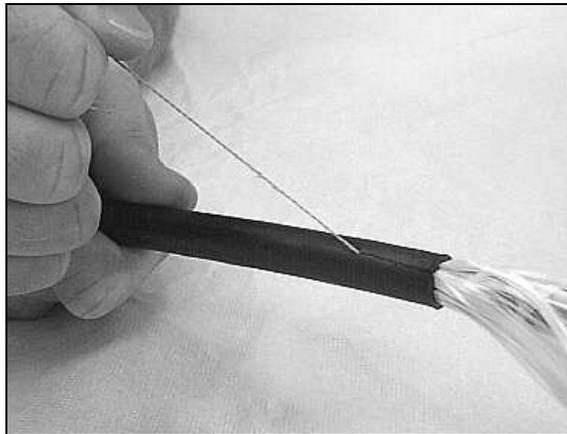

Figure 24 - Pull the ripcord to the marked length.
6.14 Locate the ripcords and pull each one to the marked edge of the sheath opening (Figure 24). A small starter slit can be cut in the cable jacket to start the ripcord. If desired, wrap the ripcord around the jaws of needle nose pliers to grip it. Remove the cable jacket from the cable core.